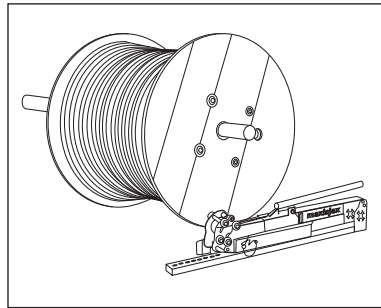
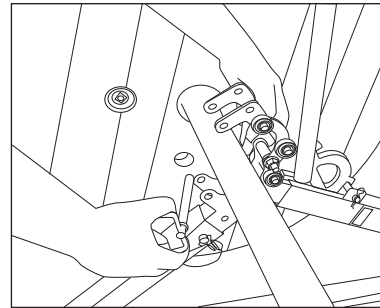

Fig. 1
Fig. 2
3. Place conduit or axle through wire reel. (Fig. 1)
4. Lift the Back Brace (9) by pulling up on the Maxis Lever (8), rotate Front Arm (3) forward. Place Leveler Pin (11) in desired set hole on Base Leg (1).
5. Raise Max Lever (8) so that it is pointing straight upward.
6. Open Upper Jaw (6).
7. Adjust height to clamp Jaws onto axle. Lift and place Leveler Pin (11) into appropriate hole on the Base Leg and or adjust Telescoping Arm (2).
8. Close Upper Jaw (6) on axle by replacing Hitch Pin (5). (Fig. 2)